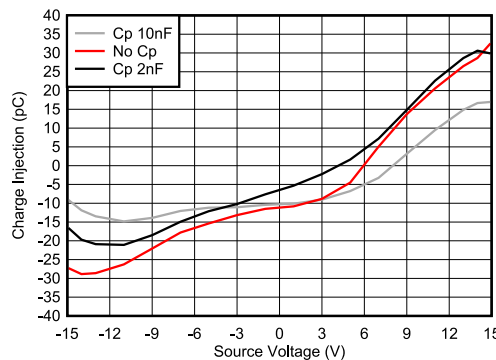

图 8-3. Charge Injection Compensation
The TMUX7219-Q1 contains specialized architecture to reduce charge injection on the source (Sx). To further reduce charge injection in a sensitive application, a compensation capacitor (Cp) can be added on the drain (D). This will ensure that excess charge from the switch transition will be pushed into the compensation capacitor on the drain (D) instead of the source (Sx). As a general rule of thumb, Cp should be 20× larger than the equivalent load capacitance on the source (Sx). 图 8-3 shows charge injection variation with source voltage with different compensation capacitors on the drain side.